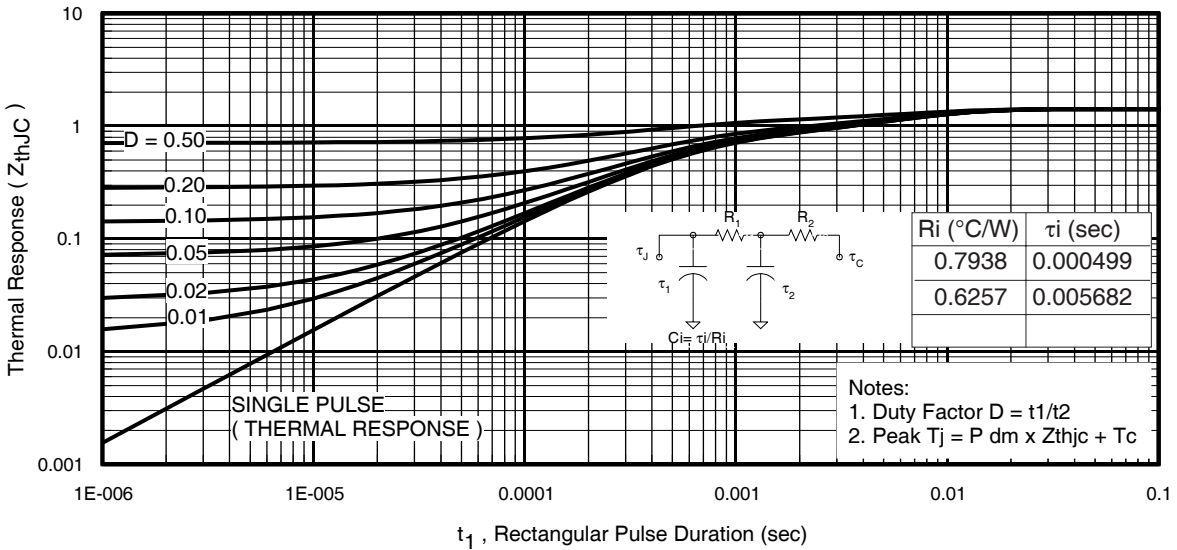
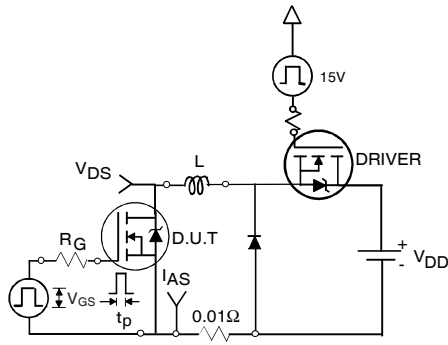

Fig 11. Maximum Effective Transient Thermal Impedance, Junction-to-Case
Fig 12a. Unclamped Inductive Test Circuit
3. Equation below based on circuit and waveforms shown in Figures 12a, 12b.
$Z_{thJC}(D, t_{av})$ = Transient thermal resistance, see figure 11)
- ① Repetitive rating; pulse width limited by max. junction temperature. (See fig. 11).
- ② Limited by T_{Jmax} , starting $T_J = 25^\circ\text{C}$, $L = 0.197\text{mH}$, $R_G = 25\Omega$, $I_{AS} = 32\text{A}$, $V_{GS} = 10\text{V}$. Part not recommended for use above this value.
- ③ Pulse width $\leq 1.0\text{ms}$; duty cycle $\leq 2\%$.
- ④ C_{OSS} eff. is a fixed capacitance that gives the same charging time as C_{OSS} while V_{DS} is rising from 0 to 80% V_{DSS} .
- ⑤ Limited by T_{Jmax} , see Fig.12a, 12b, 15, 16 for typical repetitive avalanche performance.
- ⑥ This value determined from sample failure population. 100% tested to this value in production.
- ⑦ When mounted on 1" square PCB (FR-4 or G-10 Material). For recommended footprint and soldering techniques refer to application note #AN-994
- ⑧ R_{θ} is measured at T_J approximately 90°C